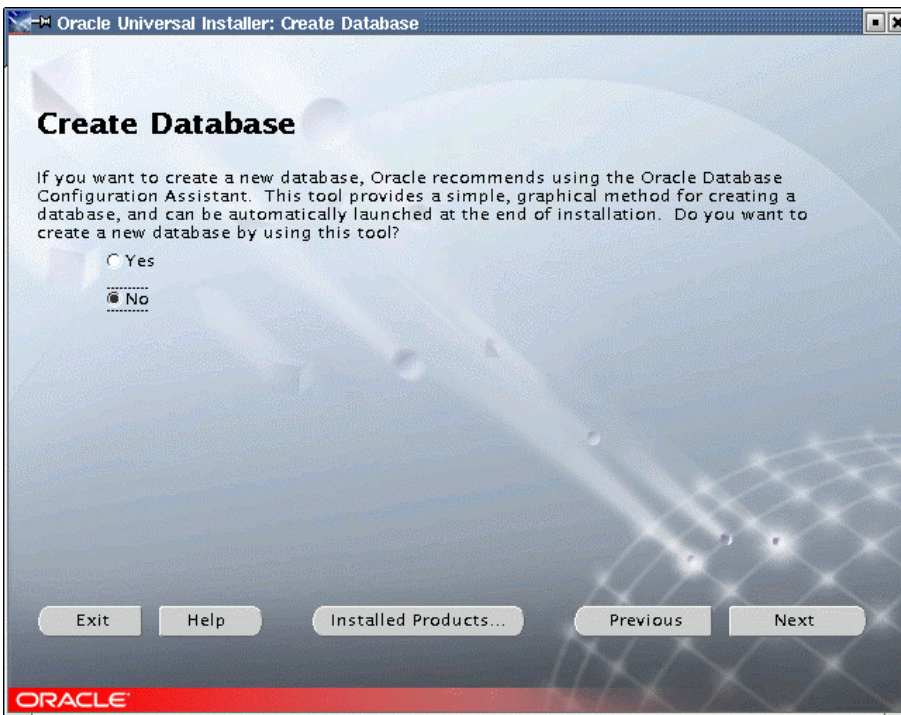

Figure 46. Create Database
- The next screen asks whether to run the Database Configuration Assistant (Figure 46). We chose not to at this point in time. Click **Next** to continue.